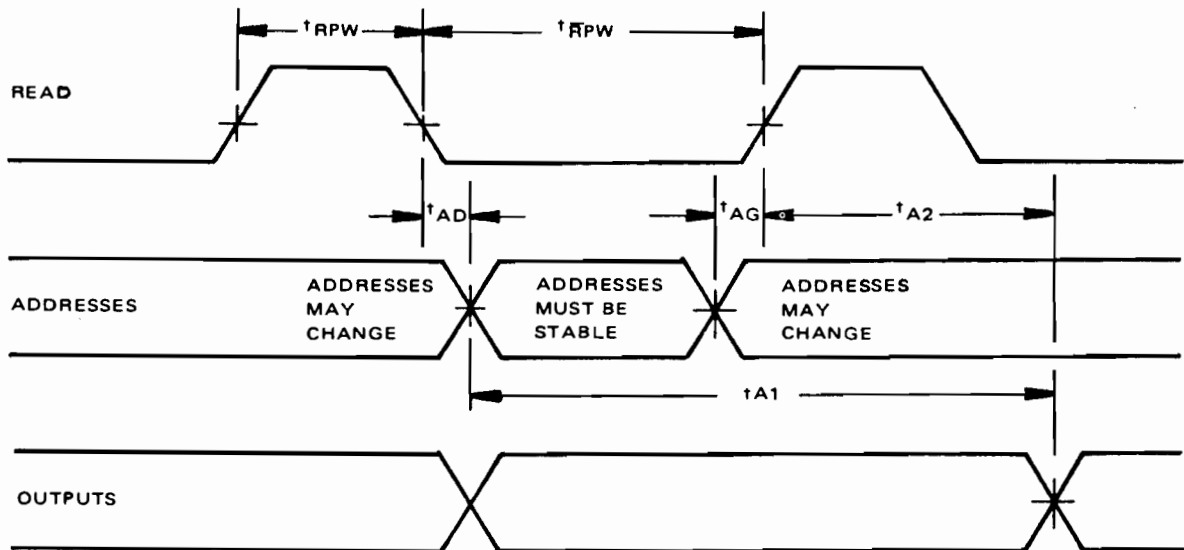

Figure A-1.
A-4. Read-Only-Memory. This is a high speed 5,184 bit clocked Read-Only-Memory with  $64 \times 9 \times 9$  organization. It is addressed with both a row code (9) and a character code (64) to obtain an output code (9) from its memory which is used to determine whether or not a dot will be printed at each given dot position. The address (character code and dot row select) inputs are decoded on the leading edge of the clock and the output buffers are latched with the dot information on the trailing edge of the clock. Figure A-1 shows a block diagram and timing diagram for this device.